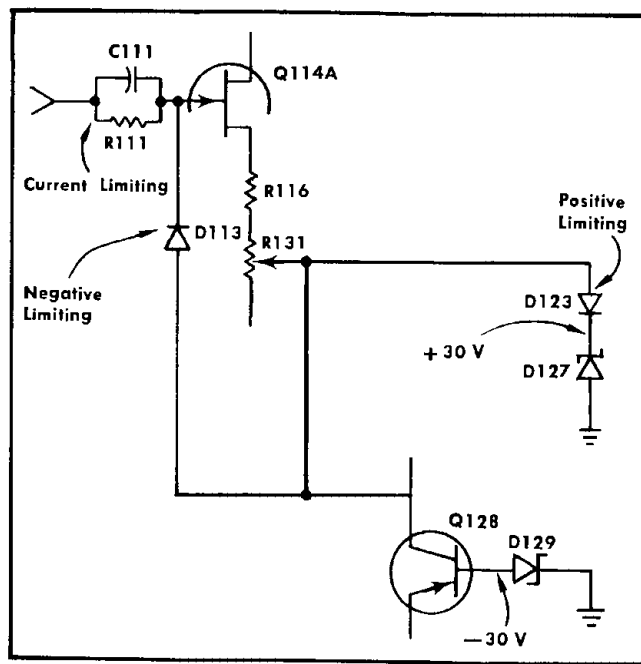

Fig. 3-4. Simplified diagram of input circuit, to illustrate, input signal limiting.
1. Negative signals whose amplitudes are greater than  $-30\text{ V}$  are limited through D113, the collector-to-base junction of Q128 and D129 to ground. See Fig. 3-4.